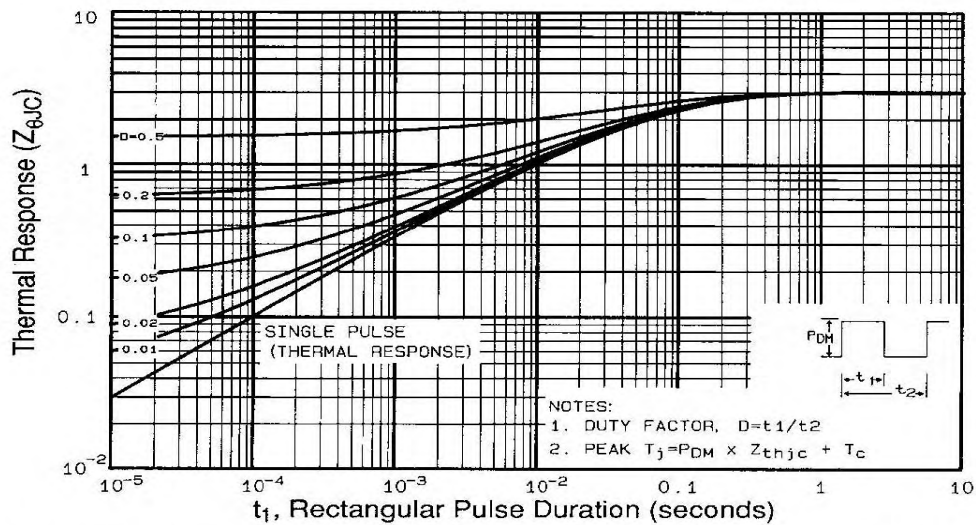

Fig 11. Maximum Effective Transient Thermal Impedance, Junction-to-Case
① Repetitive rating; pulse width limited by max. junction temperature (See Figure 11)
② $V_{DD}=-50V$, starting $T_J=25^\circ\text{C}$, $L=35mH$